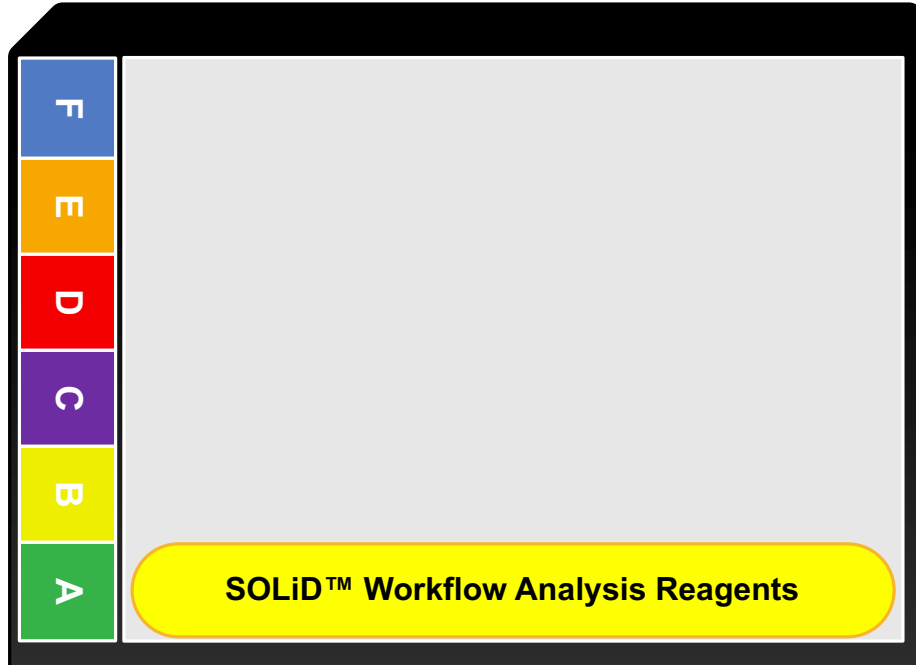

Figure 25 Reagent strip block layout for WFA.
3. Place the reagent strip(s) in an ABgene® 96-well square-well storage plate and centrifuge at $160 \times g$ for 2 minutes. For reagents needed for a WFA or sequencing run, see Figure 25 on page 31 to Figure 32 on page 34. For information about contents of reagent tubes, see “Reagent strip layouts” on page 120.